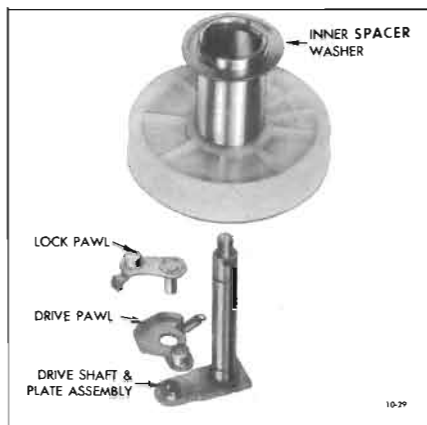

Figure 10-29—Disassembling Gear Assembly
3. Slide drive plate and shaft out of gear and remove the drive pawl, lock pawl and coil spring as required. See Figure 10-29.